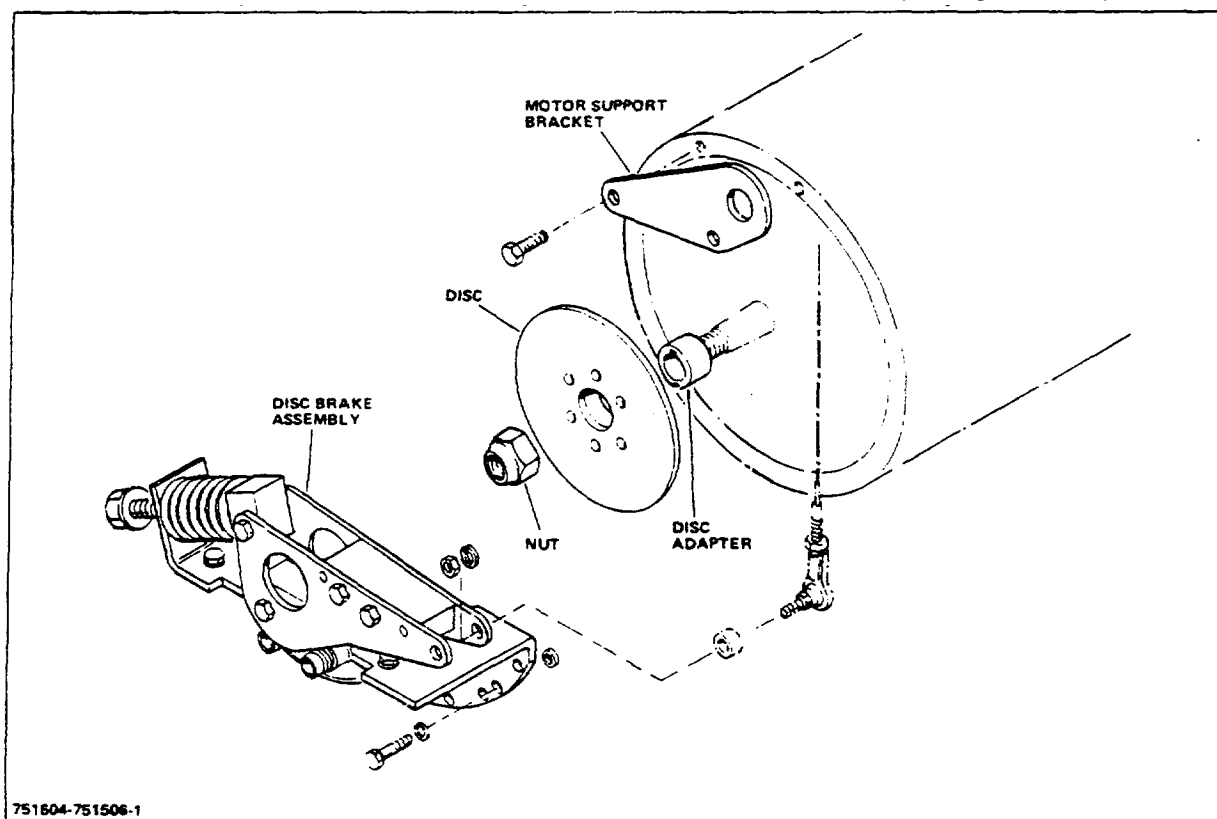

Figure 4-1. Parking Brake
The parking brake (Fig 4-1) is the disc and caliper brake type. The mechanically operated disc brake assembly is the self-aligning type with the disc mounted on the end of the drive motor armature shaft. A cam lever actuated disc brake assembly is used to apply the pads against the disc to hold the lift truck in a stationary position. As spring tension is applied to force the end of the cam lever downward, the pads are actuated against the disc. When the end of the cam lever is pulled up, the cam pad moves away from the disc.
4. Remove capscrews, lockwashers, and washers that secure disc brake assembly (Fig 4-1) to drive motor; remove disc brake assembly from motor and at the same time carefully slide the disc from the motor armature shaft, or disc adaptor which is secured to the shaft with a nut (Fig 4-1). Remove the disc from the disc brake assembly.